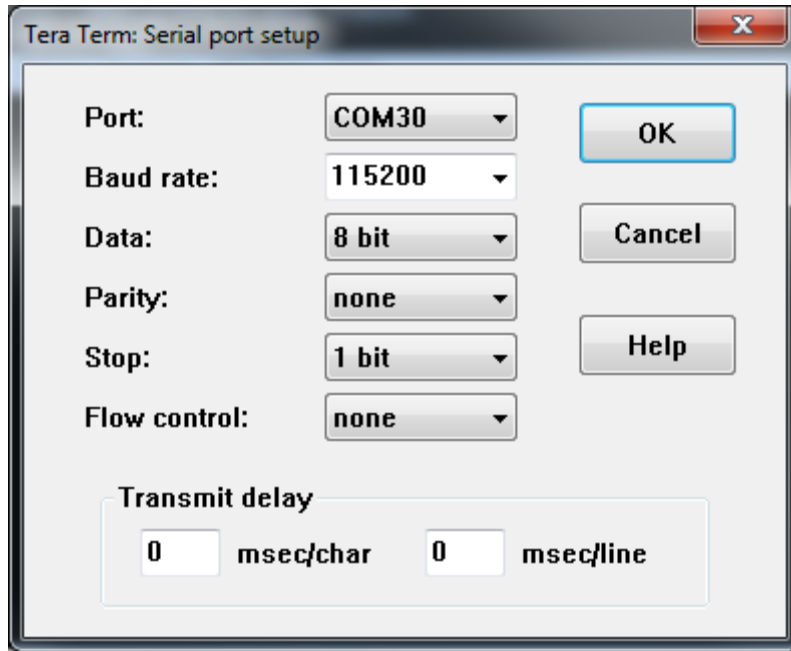

Figure 10. Tera Term Port Settings
2. Select Setup -> Serial, Setup Port Settings. Baud rate 115200, Data = 8, Parity= None, Stop = 1, Flow Control =none, as shown in Figure 10.